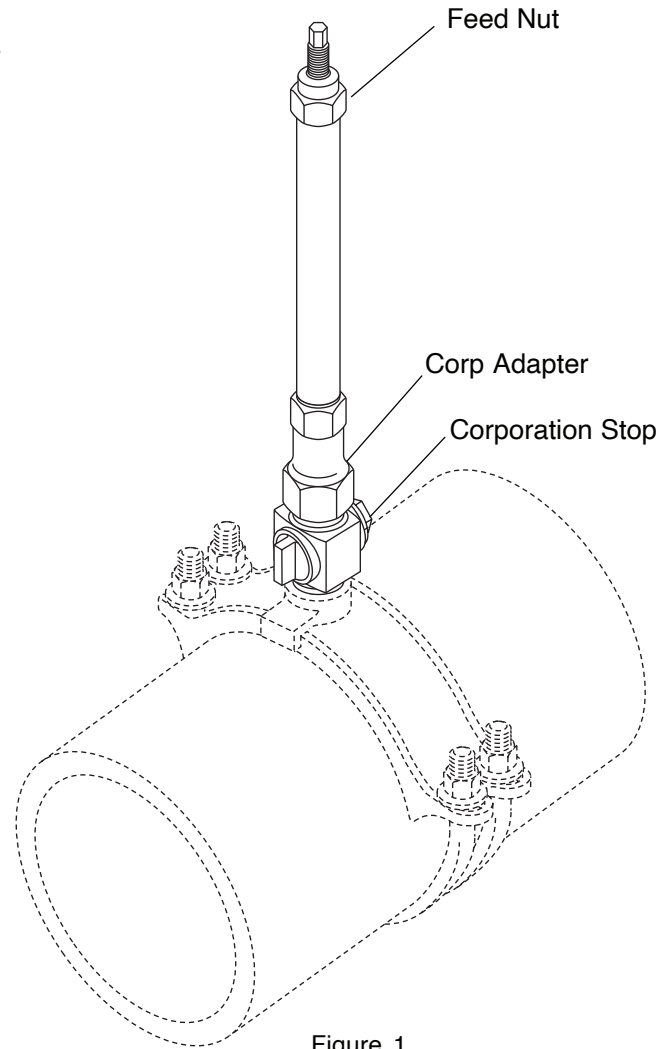

Figure 1
- B. Lubricate the shaft and threads of the boring bar with light oil. (See Figure 1)